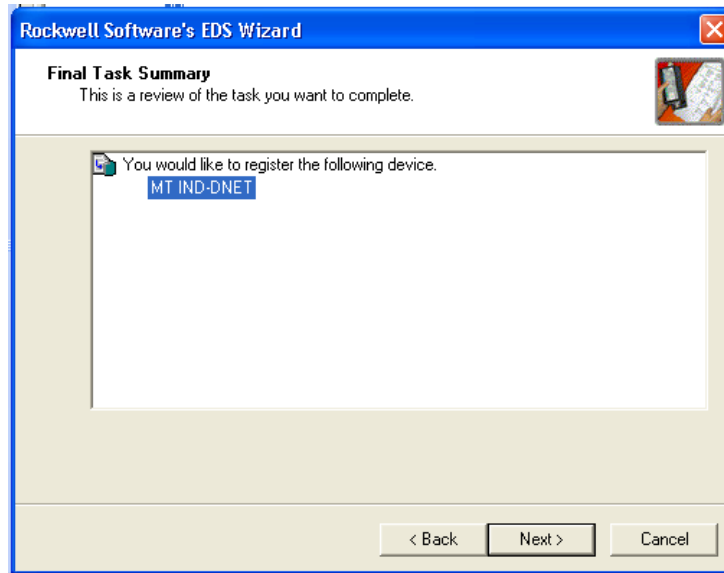

Figure 3-11: Final Task Summary Screen
10. The Final Task Summary screen (Figure 3-11) will appear. Click Next.